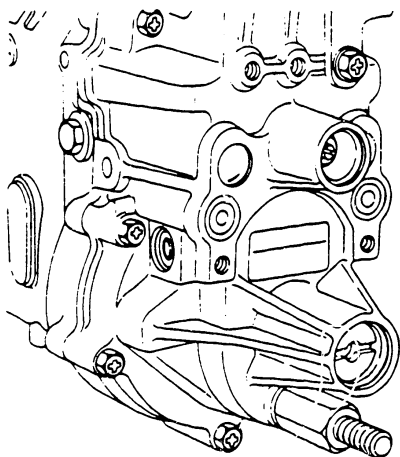

Fig. 113 RLD-E governor cover
3. If the lip of the oil seal (167) is damaged, replace the oil seal.
4. If the inside circumference of the RDL-E governor cover is damaged, replace the governor cover. (Fig. 113)